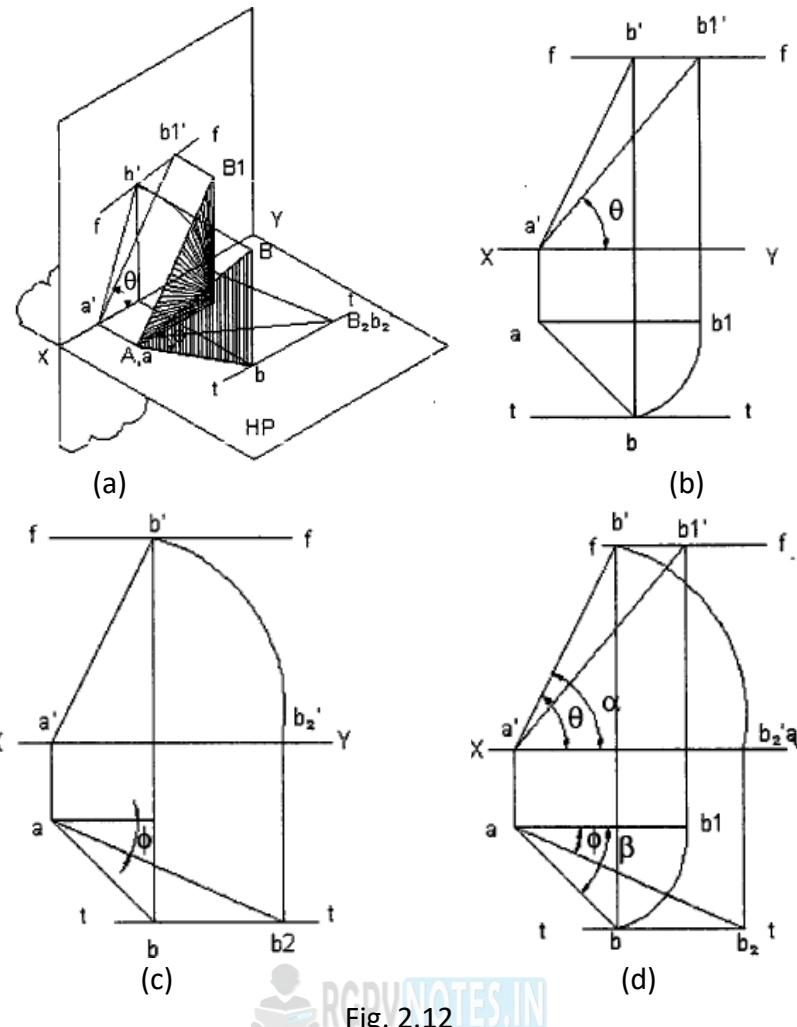

Fig. 2.12
Stage I Assume the line is inclined to H.P by θ and parallel to V.P. (Fig. 2.12 b)
Stage II Assume the line is inclined to VP by Φ° and parallel to H.P (Fig. 2.12 c)
Stage III Combine Stage I and Stage II (Fig. 2.12 d),
- (vi) Join a' , b^l and a, b forming the required final projections. It is observed from the fig. 2.12 c that: